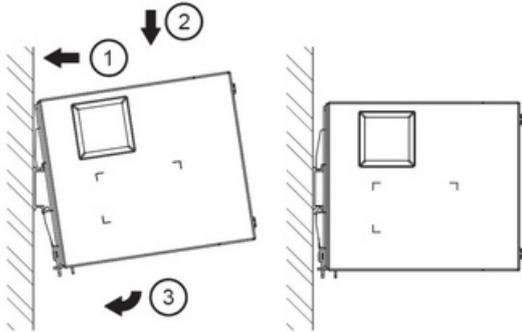

Fig. 3.1 Mounting
2. Snap the unit onto the DIN rail as shown in Fig. 3.1.